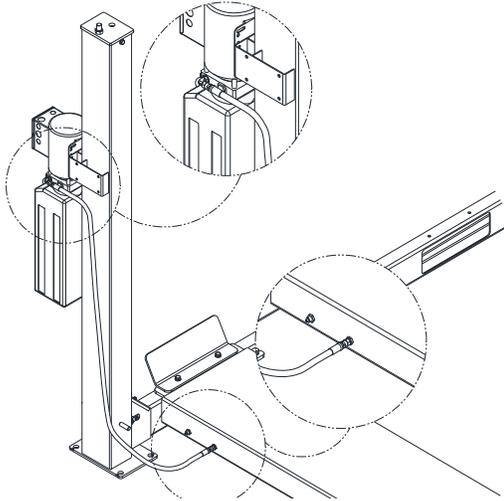

Fig 16 – Supply Line, Front
- 32) For installs on the front of the column (**Fig 16**), route the power unit supply line to the bulkhead shown below. Attach the 90 degree fitting at a slight angle downward and secure the hose to the fitting.